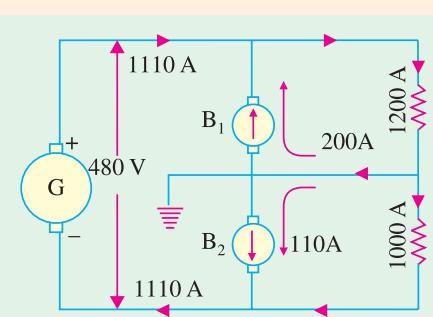

Fig. 40.49
**Solution.** As shown in Fig. 40.49,  $B_1$  is generating and  $B_2$  is motoring.